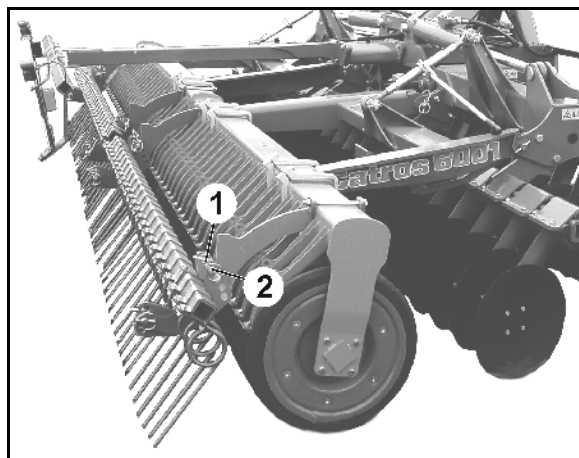

Fig. 34
3. Release the clip pin (Fig. 34/1).
4. Secure the adjusting pin (Fig. 34/2) in the desired position.